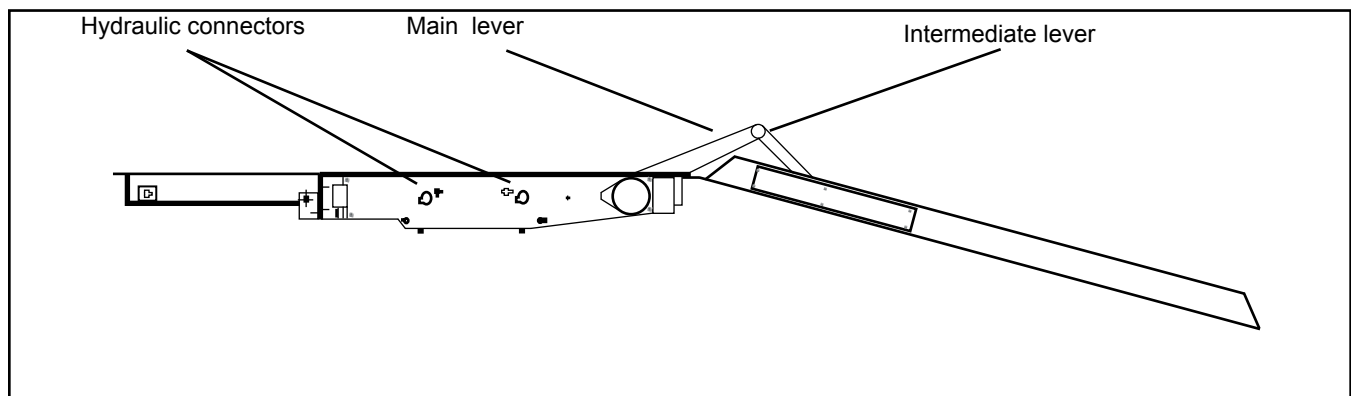

Figure 3 - Ramp Components
- 2.3. Dismount the main lever from the intermediate lever. Retain the hardware. See Figure 3.